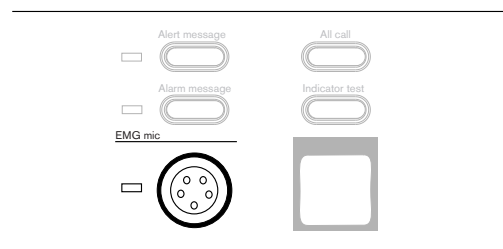

Figure 7.14 Emergency microphone indicator
- The red EMG mic indicator is lit (see *Figure 7.14*).